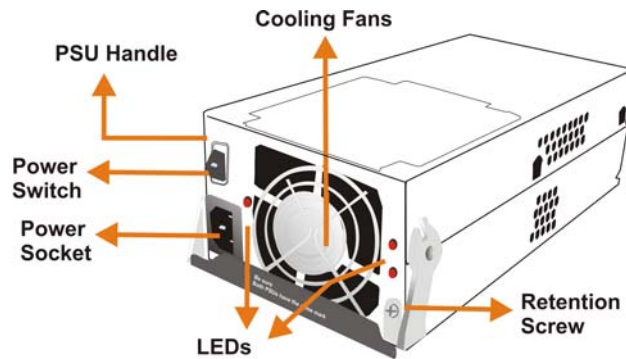

Figure 1-9: PSU Module
As shown in **Figure 1-9**, each PSU comes with a power socket and a power switch to turn the subsystem on and off. Two (2) embedded cooling fans provide sufficient airflow. A single LED indicates the PSU status. When a power supply failure occurs, the red LED lights come on. A rejection handle at the rear of the PSU is especially designed to help properly install or remove the module.